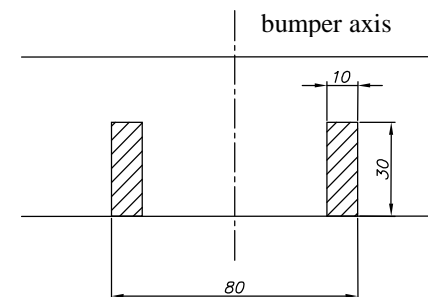

Fig. 2 Cut area
4. In the place previously metal strengthener, put the elements (pos. 5 and 6) and twist with bolts M8x35mm (pos. 16) from the front, and form under of this, with bolts M10x35mm (pos. 15) - loosely.
5. For this way prepared elements, put the main bar of the towbar (pos. 1) and twist with bolts M12x35mm (pos. 14).
6. To elements (pos. 5 and 6) through the holes (pos. A) fix the brackets (pos. 7 and 8) with bolts M12x35mm (pos. 14) and previously put bolts M10x110mm (pos. 13) and twist with chassis member.
8. Mount the bumper after previous cut a fragment, how is showed on fig. 2.
9. To the installed bar fix body of the automat (pos. 24) and the socket plate (pos. 3) using bolts M12x25mm (pos. 12) from accessories. Place tow-ball (pos. 2) according to supplied instruction.